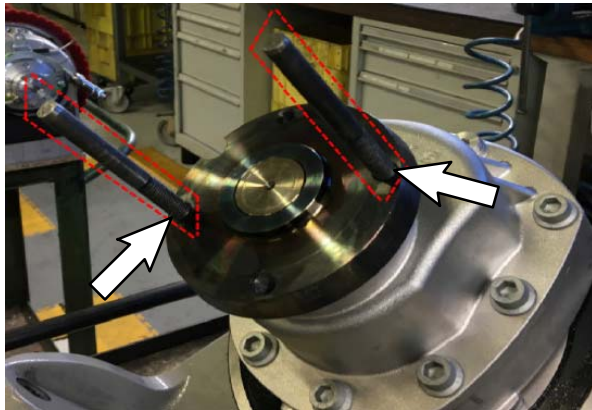
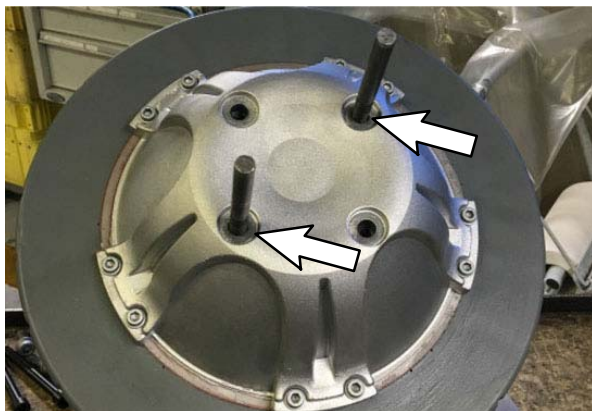

FIG. 7
FIG. 8
7. Use the yellow marker (4) to mark the drain plug and gearbox housing to show the drain plug is correctly torqued.
8. Insert the plastic straight fitting (6) into the oil pump (2) hose.
9. Use the hose clamp (7) to secure the plastic straight fitting (6) in the oil pump (2) hose.
10. Use the oil pump (2) to fill the drive wheel assembly with fresh oil (1).
12. Use the yellow marker (4) to mark the fill plug and gearbox housing to show the fill plug is correctly torqued.
13. Place the wheel onto the drive wheel assembly and use two dowels to align the holes in the wheel with the holes in the drive wheel assembly. (Fig. 7/Fig. 8)